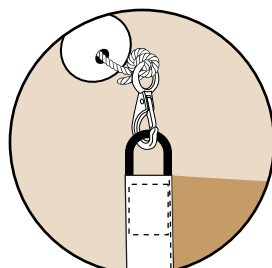
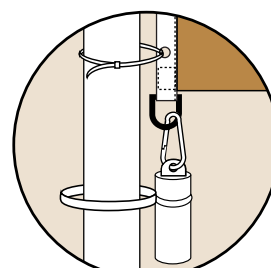

Fig 13,
Fig 14,
16. Wind the winch to bring the halyard and weight down, ensuring flag is the correct way up, clip the halyard onto the top D-ring on the flag, ( See Fig 13) and clip the weight onto the bottom dring. (See Fig 14)